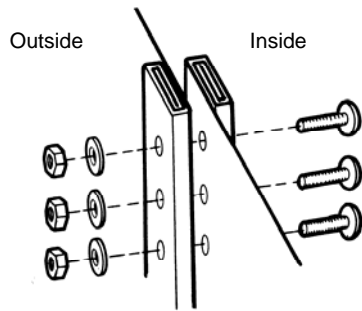

Figure 11.7
or are overlapping too far, gently tap each of the footplates from the outside or inside. You will slightly change the circumference of the wall enabling it to fit perfectly. When joining the pool wall, make sure the folded end of the wall is facing the inside of the pool, and the other folded end is outside the pool (figures 11.7 and 11.8). For a wall with aluminum bars, make sure that the bars end up inside and outside the pool (figure 3.9 et 3.10) To assure stability during installation and avoid damaging the wall, use tape to temporarily attach the pool to the posts.
- Bolt heads must be inside and nuts and washers outside (figures 11.7 and 11.9).
- File off any burrs and cover all bolt heads with a heavy fabric tape before you put in the vinyl liner. (figure 11.7 and 11.9 inside)